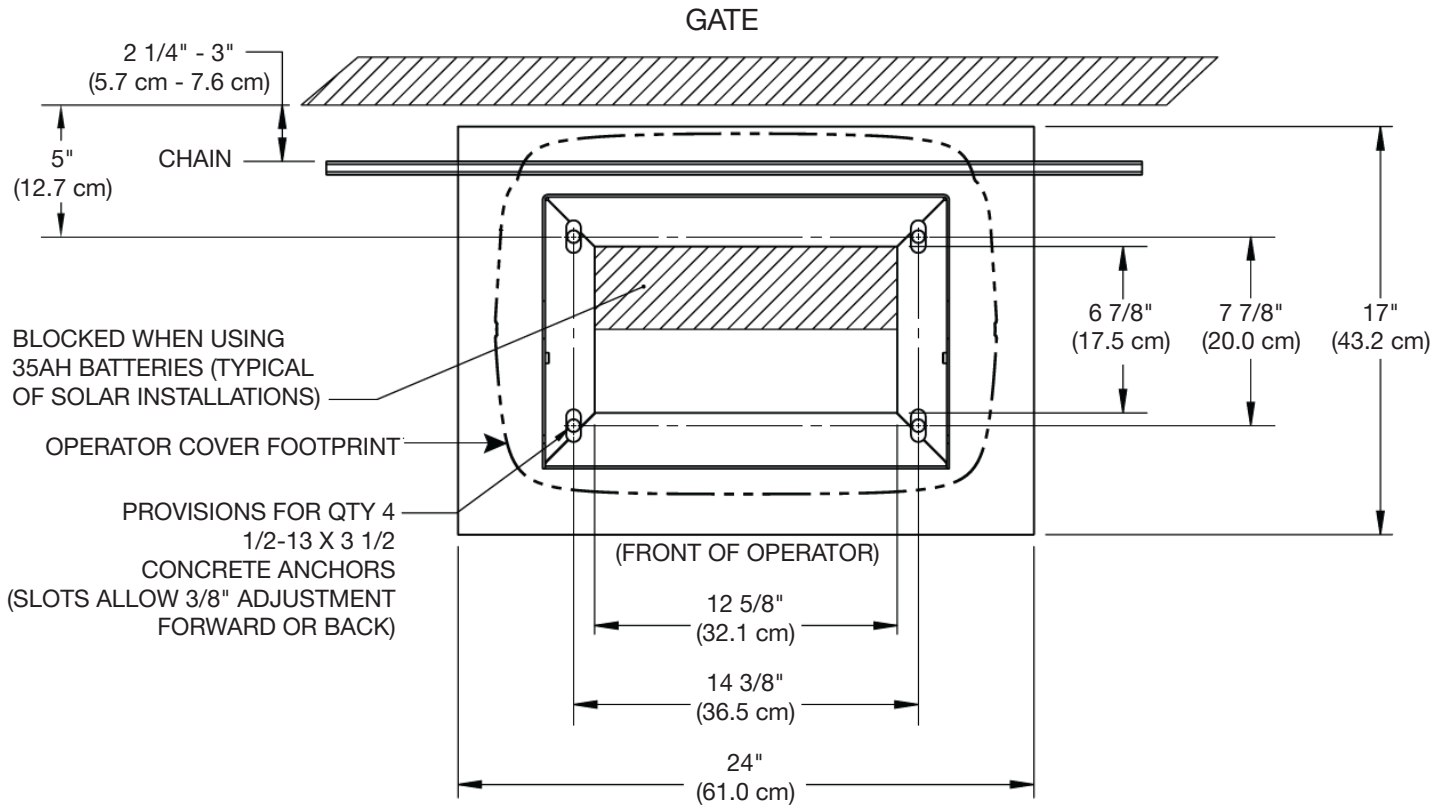

Figure 4. Concrete Pad, Anchor Hole, and Conduit Dimensions
1. Determine the location of the operator from the gate (Figure 4).
2. Refer to Figure 4 for minimum dimensions for a new concrete pad. Refer to Figure 6 for conduit and earth ground requirements.
4. Mark the anchor hole positions on the concrete pad (Figure 4).
4. Mark the new anchor locations (Figure 4).